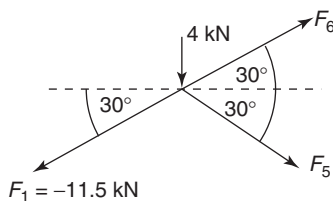

Figure 4.37
Consider joint (3); see Figure 4.37.